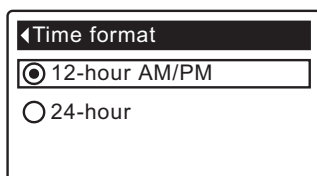

FIG. 54
1. From any of the rolling status screens, press the SELECT (O) button to display the **Main menu**.
3. Press the SELECT (O) button to display the User preferences menu.
5. Press the SELECT (O) button to display the Time format menu (See Figure 54).
6. If the desired time format already has a black dot next to it (See Figure 54), go to Step 7. Otherwise, press the DOWN (▼) or UP (▲) buttons to scroll to the other time format, then press SELECT (O) to choose it.
7. Press the SELECT (O) button. The display will go back to the User preferences menu.